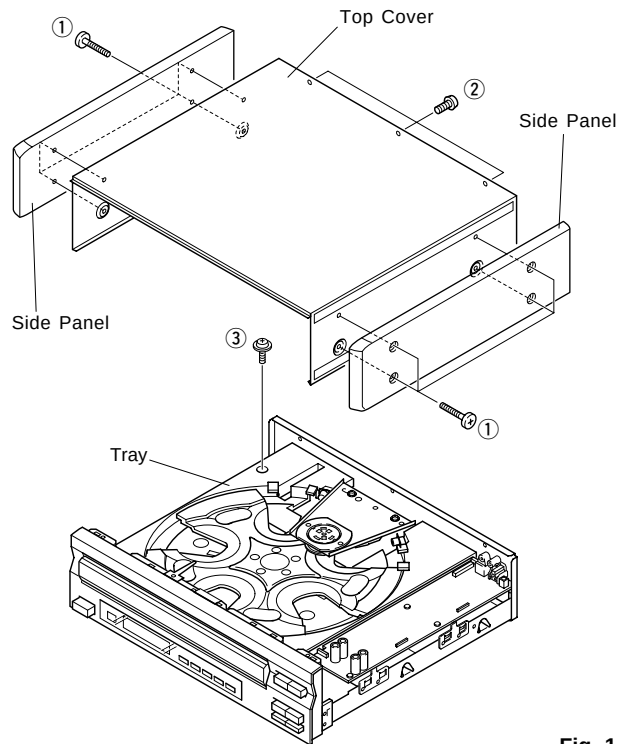

Fig. 1
- a. Remove 8 screws (①) and also 3 screws (②) as shown in Fig. 1.
- a. Remove 1 screw (③) as shown in Fig. 1.